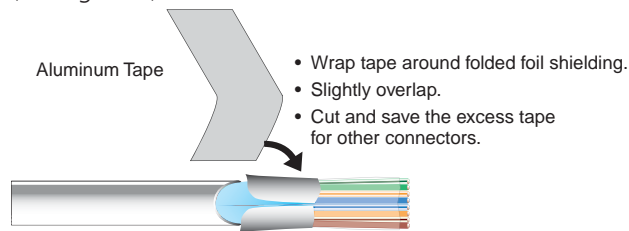

Figure 8. Wrapping the Shielded Tape
3. Peel the backing off the self-adhesive shielded aluminum tape and wrap it around the folded-over cable shielding, **slightly overlapping** the beginning of the tape (see figure 8).